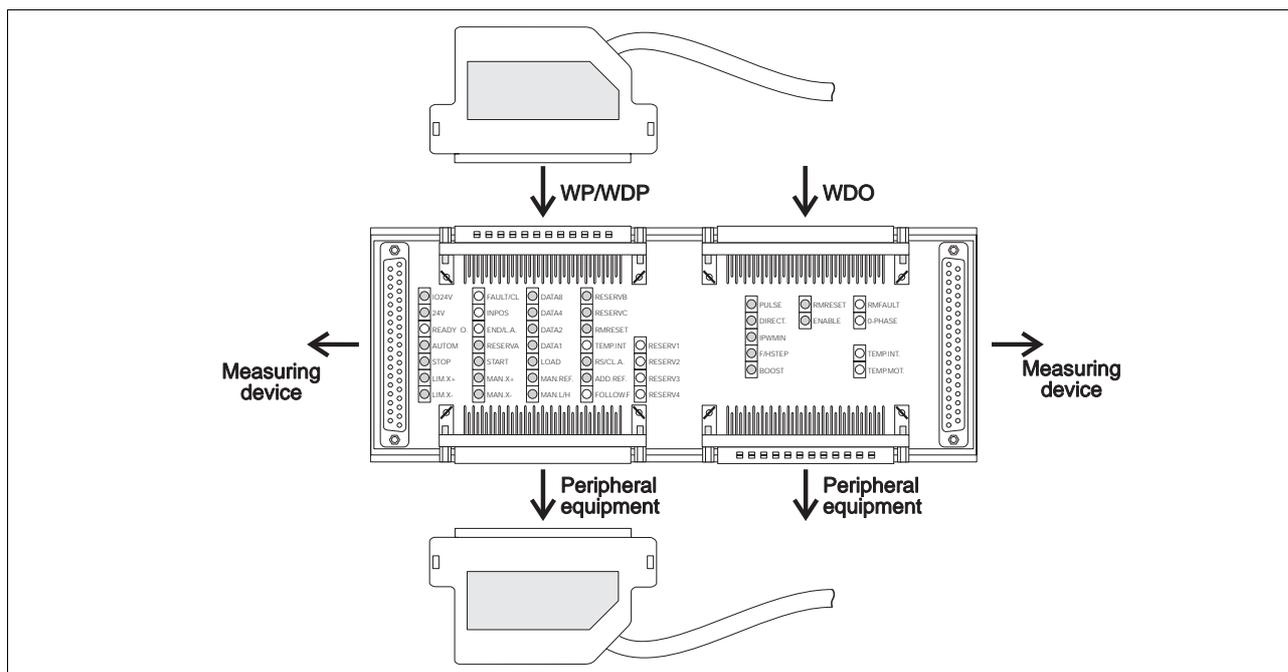

Figure 6-13 Initial Operation of Interface Tester D690
2. Connect the Interface Tester D 690 in line with the cable between WP/WDP or WDO equipment and periphery, see figure 6-13.